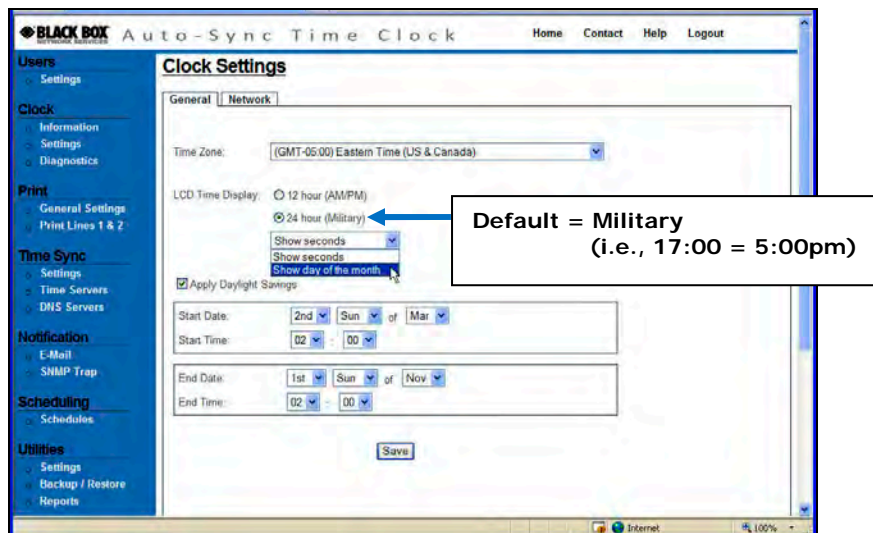

Figure 4-4. General Clock Settings.
1. After you have logged in, click on the **Settings** link under Clock, and the **Clock Settings** screen for general settings will appear (see *Figure 4-4*).
2. Select the appropriate Time Zone from the dropdown menu (see *Figure 4-4*). The default = EST. The Time Zone selected controls the Time Zone adjustment sent to the clock. If OATS compliance is necessary, the Time Zone must be set to the default of (GMT-05:00) Eastern Time (US & Canada).